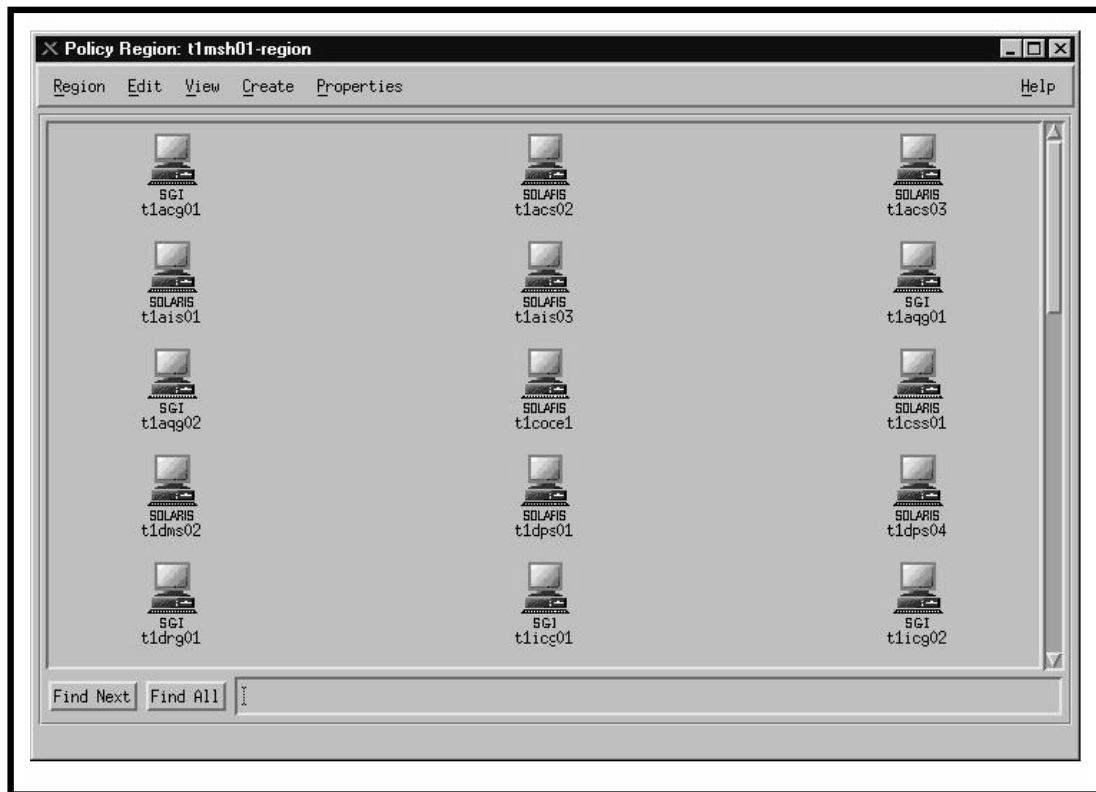
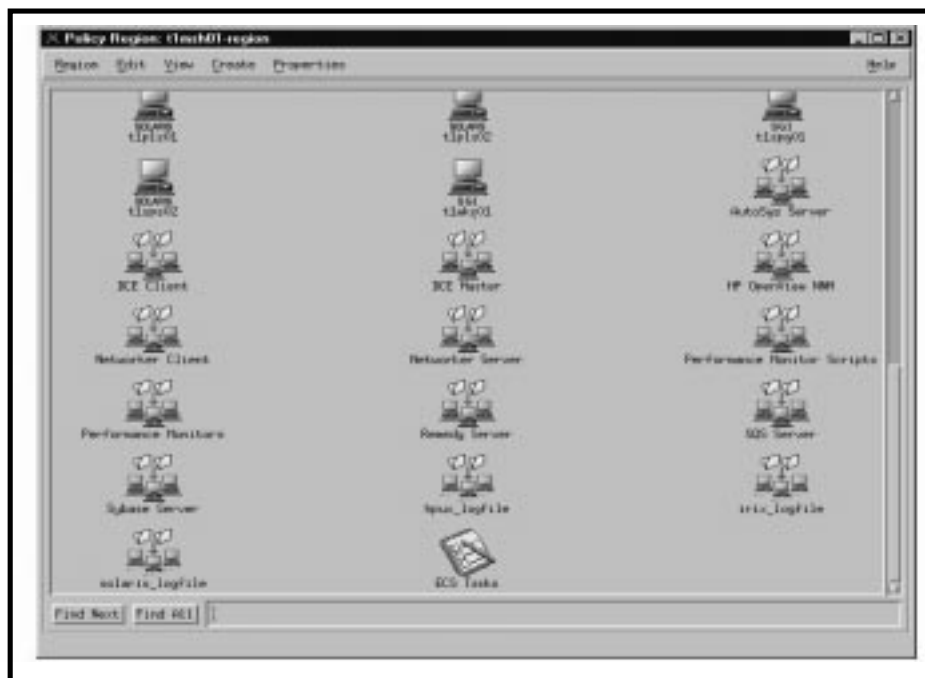

Figure 12. Policy Region content for t1msh01 in the VATC
Figure 12a. Policy Region content for t1msh01 in the VATC, continued
Figure 12 and Figure 12a show the Policy Region content for the VATC system under TMR t1msh01. It has been populated with the individual hosts and other managed resources under Tivoli management purview.
- A scrollable window of components is displayed (Figure 12).